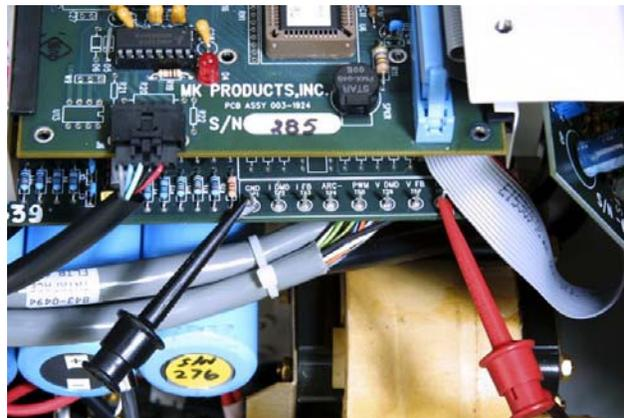

Fig. 5 – TP8 Voltage adjustment
3.1.6 Leaving the **Meter GND(-)** lead on **TP1**, move the **Meter POS(+)** to **TP8**. (Figure 5)